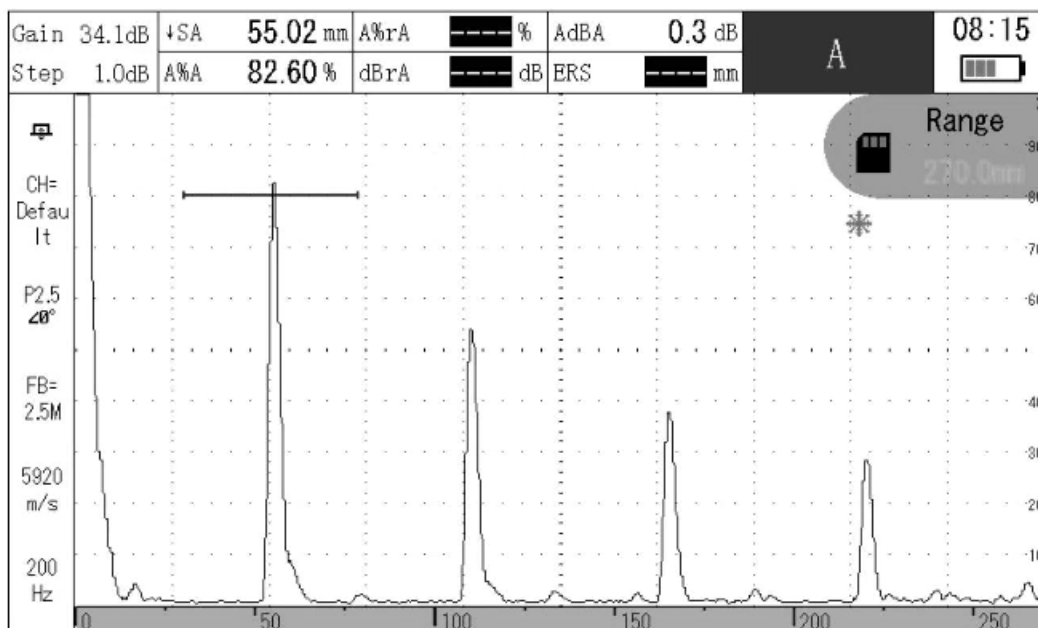

Figure14 Full screen display-Knob function is to adjust the Range
3)When short press  button, as shown in Figure 14, the freeze indicator is displayed at this position. When long press  button, trigger the recording function and display the indicator. In full screen mode, long press  button to take a screenshot.